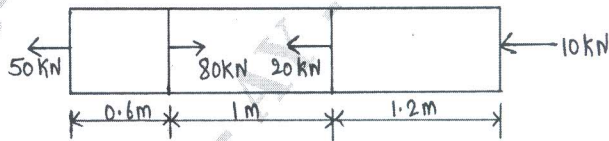

Fig.Q.1(b)
- b. A bar having cross sectional area of  $1000\text{mm}^2$ , is subjected to axial force shown in Fig.Q.1(b). Find the total elongation of the bar. Take  $E = 100\text{GN/m}^2$ . (10 Marks)